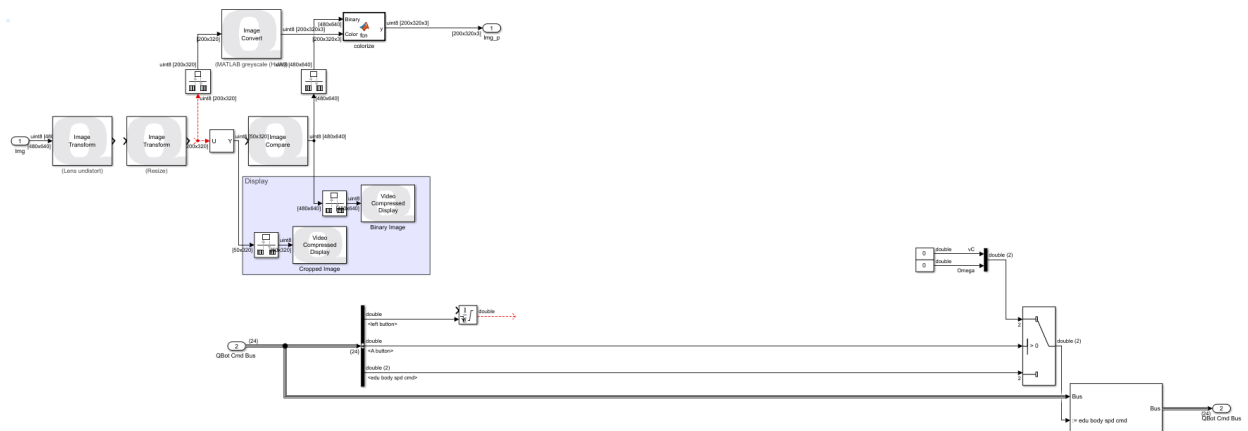

Figure 3. Student Image Processing Block
2. Currently, your block should look like Figure 3. It is incomplete and you will fill it as you go through the next sections.